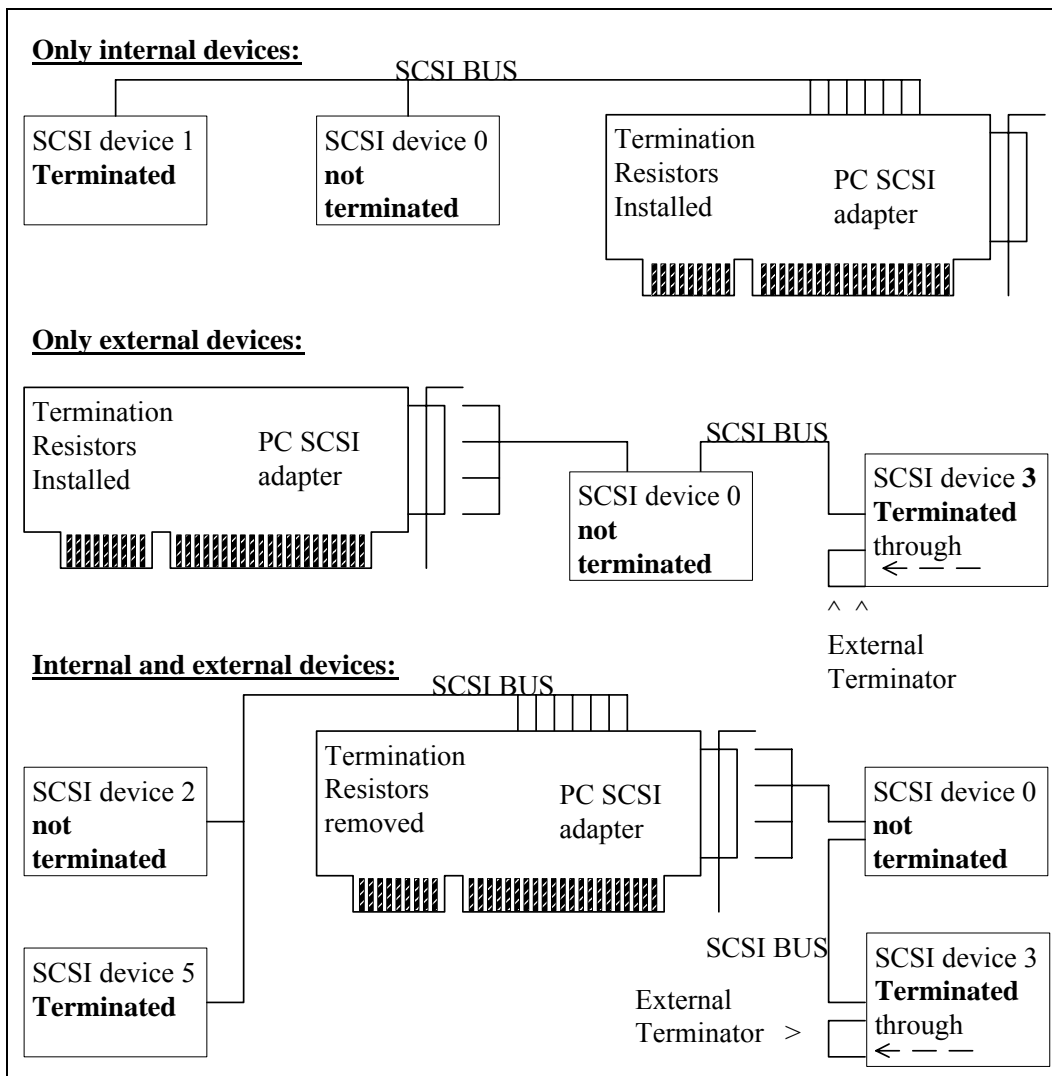

Figure 2: SCSI Cable Connection and Termination Configuration
4. Verify that the SCSI bus is properly terminated. Refer to Figure 2 for termination configuration options.
3. Verify that the SCSI bus is properly terminated. Refer to Figure 2 for termination configuration options.